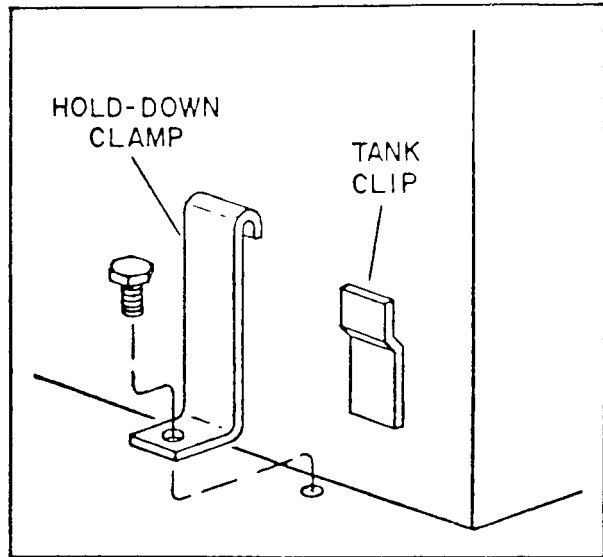

Figure 2. Circulator Mounting
- a. If the Water Circulating Unit is used in a moving vehicle, use the four hold-down clamps supplied as shown in Figure 2.